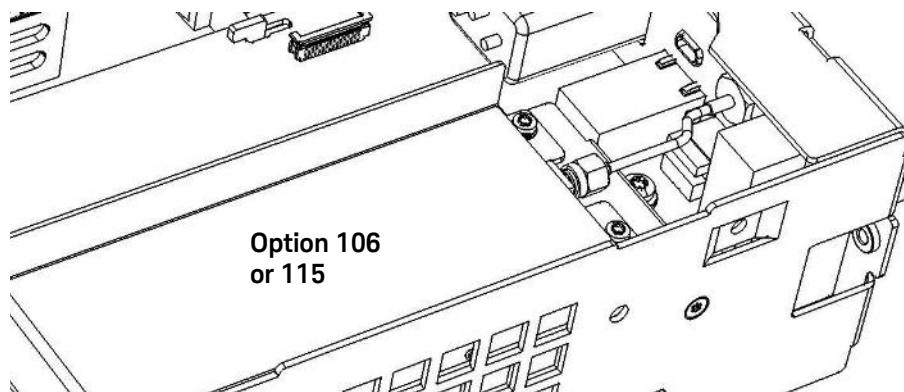

Figure 4-15 Channel 2 assembly installed on top of the motherboard, with the SMA edge connector pointing toward the rear of the counter.
- 4 Set the Channel 2 assembly down on top of the motherboard so that the SMA edge connector is towards the rear panel. The front flange on the right-front of the Channel 2 assembly bracket must rest on the tab protruding from the front panel (see Figure 4-15).